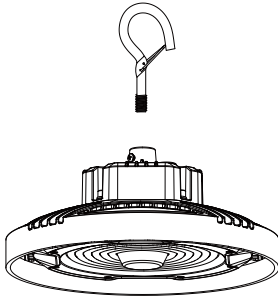

Figure 1
1. Please screw the lifting ring into the high bay light fixture, then tighten it firmly. (Figure 1)